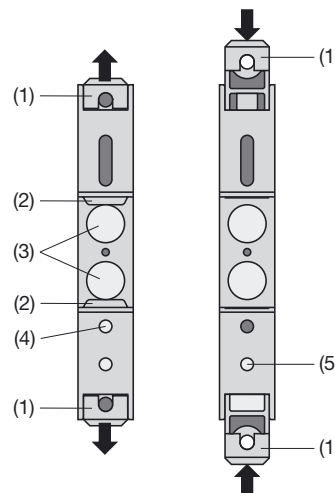

Fig. 5. Rear of device.
While pressing the latch (4) in the base of the device (Fig. 5, left) pull out the transmitter securing brackets (1). To return the brackets to their original positions, the latch (5) in the base of the device has to be depressed before applying pressure to the securing brackets (1) (see Fig. 5, right)